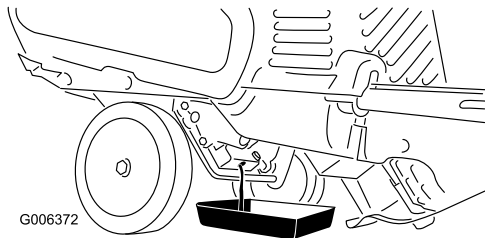

Figure 24
3. Place an oil-drain pan under the oil-drain plug, remove the plug, and tip the machine backward and drain the used oil in the pan (Figure 24).